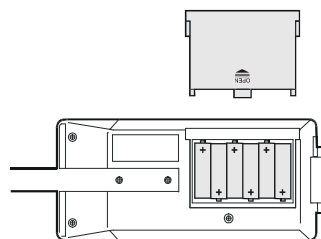

Figure 14
- 1) Push out the battery cover in the direction of the "OPEN" arrow on the battery box. Then install 6 AA batteries according to the battery polarity mark on the battery box. (See Figure 14)